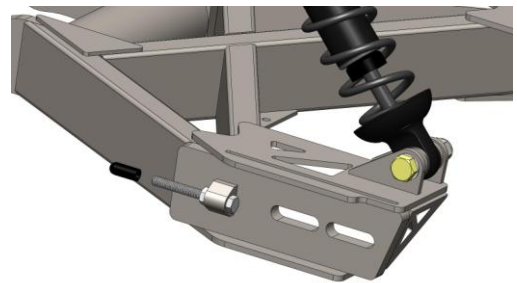

Figure 9
- a. Install the supplied 5/16-18x2-1/4 hex head adjuster bolts and jam nuts onto swing arm. Adjuster bolt should be in the furthest forward position to allow room to place belt around rear pulley in a later step. Figure 9